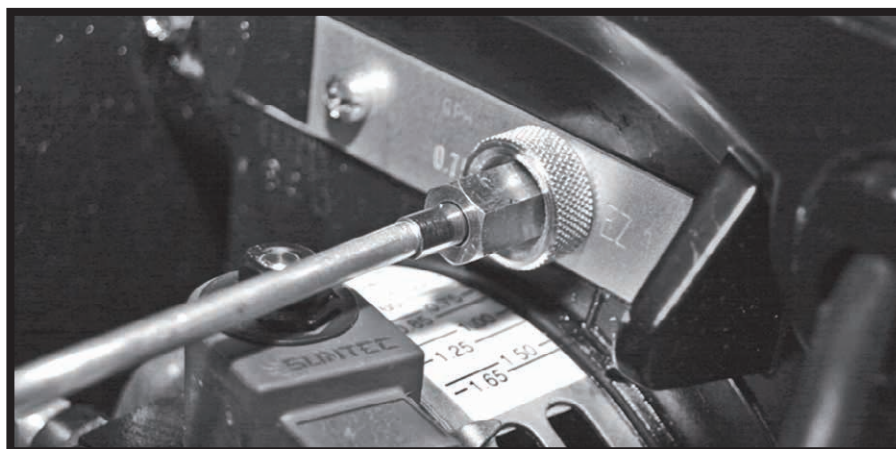

FIGURE 2A: OIL LINE FITTING
2. Unscrew the oil line fitting and thumb nut at the burner housing. (Figure 2A)
6. Set electrodes to proper gap, using Carlin electrode gauge (see Figure 2A).